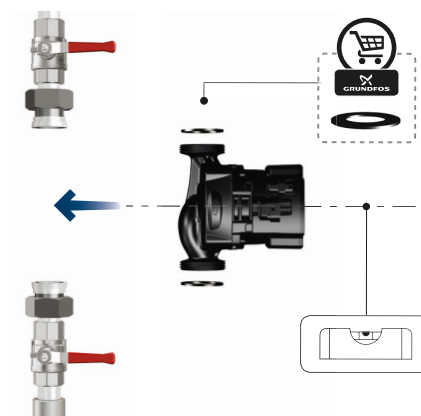

Fig. 2 Pump installation
2. Fit the two gaskets supplied with the pump when you mount the pump in the pipe. Install the pump with a horizontal motor shaft. See fig. 2. See also section 3.3 Control box positions.